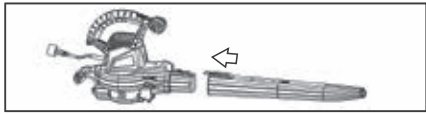

Fig. 5
3. Push blower tube forward until the notched areas on the blower housing locks into the slots on the tube as shown in (Fig. 5).